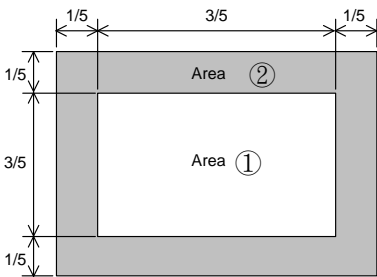
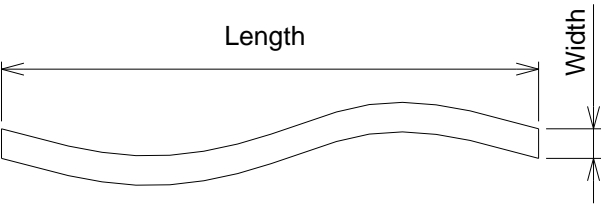

Fig. 11.3
Fig 11.4
The specification as below is defined as the amount of unexpected phenomenon or material in different zones of LCD panel. The definitions of length, width and average diameter using in the table are shown in Fig. 11.3 and Fig. 11.4.
Note 1: The Dot-Defect inspection within A zone (active area) would be divided into area ①, ② as Fig. 11.3 shown.